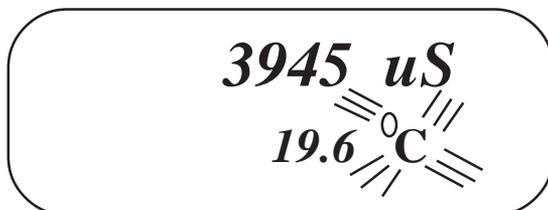

Figure 3-21: LCD Display YSI 30
4. With the probe in the sample or waterbody press and release the **MODE** button slowly and deliberately until the LCD display shows the "**uS** or **mS**" symbol next to the main display and the flashing "**°C**" symbol in the lower right hand corner of the LCD (Figure 3-21).